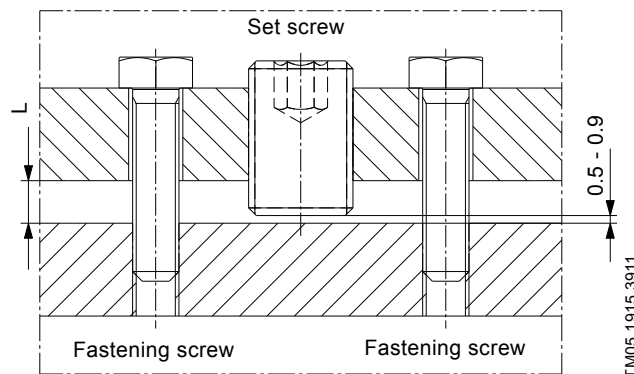

Fig. 11 Impeller clearance adjustment
3. Loosen the set screws and draw back the inlet cover by between 0.5 and 0.9 mm using the six fastening screws (approx. one 270° turn of an M12 fastening screw) and the distance "L" as reference. See fig. 11.